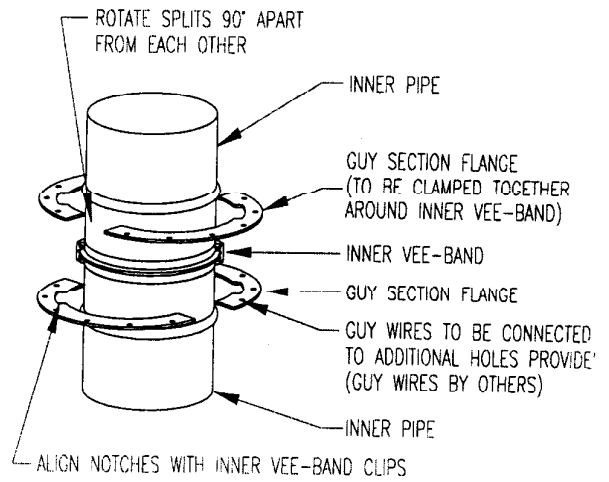

Figure 24 - Guy Section
When the height above the roof line exceeds 12 feet, a Guy Section is recommended. The inner flanges of the Guy Section are connected in the same procedure as the typical pipe sections. The outer shell is then sealed by using special half bands and sealant. Guy wires or braces are to be attached to the horizontal flanges of the Guy Section (See Figure 24). The cables and pipe guys must be slightly loose to allow for thermal expansions. To reduce the thermal expansion effects on rigid bracing or guy wires, a Support Plate (SP) or Wall Support